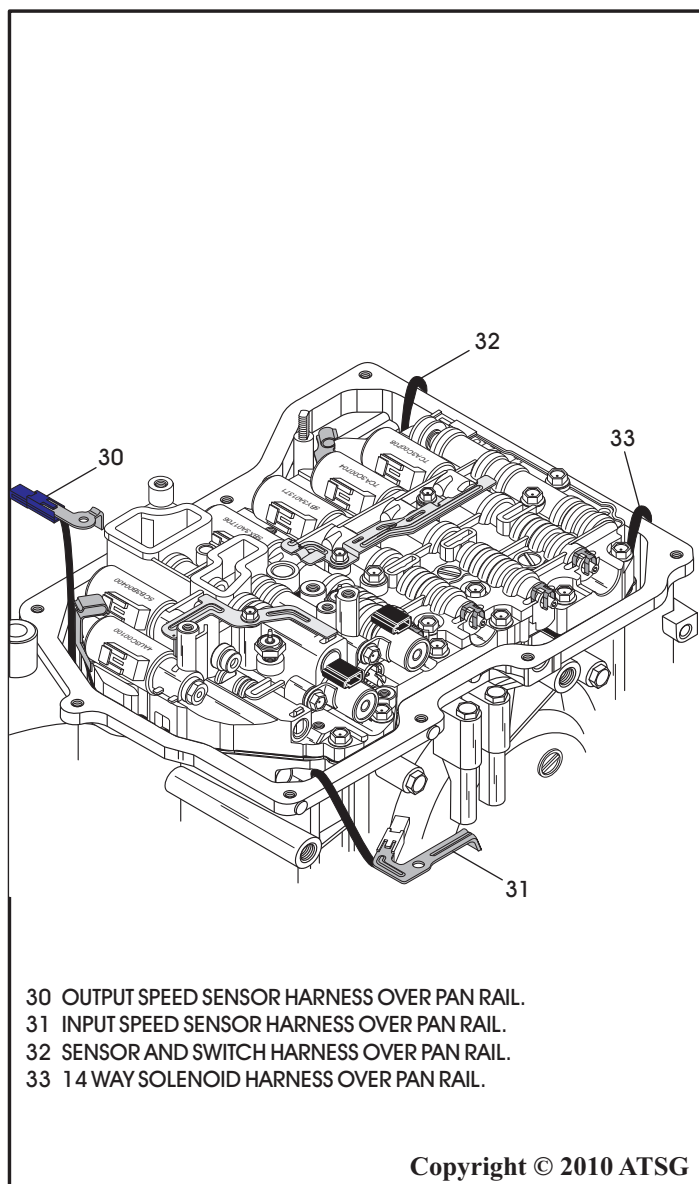

Figure 58
20. Remove all eight solenoid connectors from their respective solenoids (See Figure 58).
21. Lay the solenoid wire harness from the 14 way connector over the pan rail (See Figure 58).